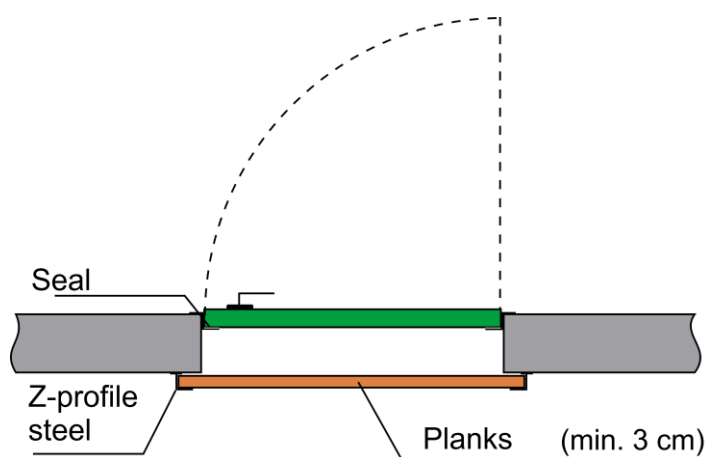

Figure 6 Pressure and impact protection for the door of the storage room
- The injection pipe should have a straight end-section of at least 30 to 50 cm to overcome turbulence in the pellet stream that would lead to large scattering angles at the outlet. (See Figure 6).